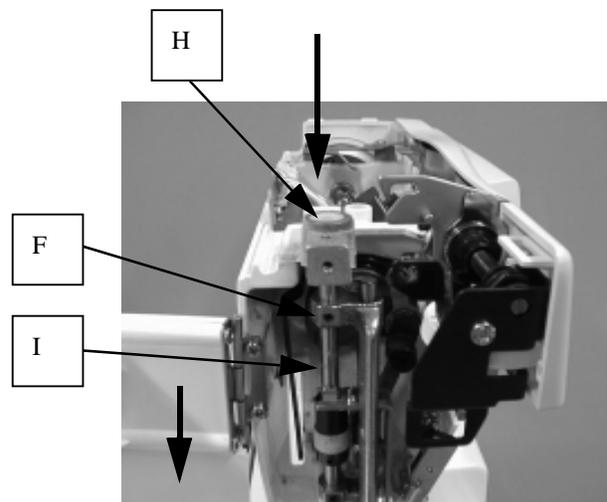

FIGURE 3-4
5. Set guide bar(I) to the arm in the arrow direction, while inserting needle bar crank rod(K) to the needle bar crank pin as shown in Fig.3-4,3-5.